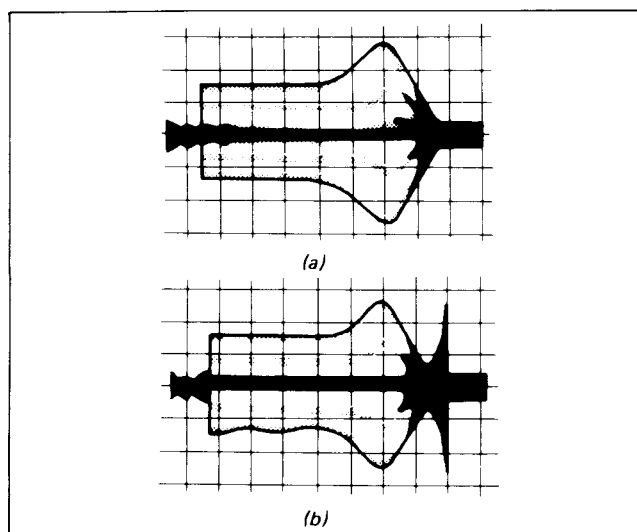
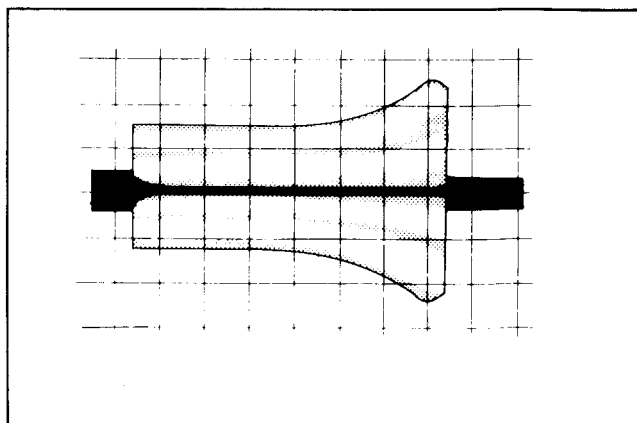
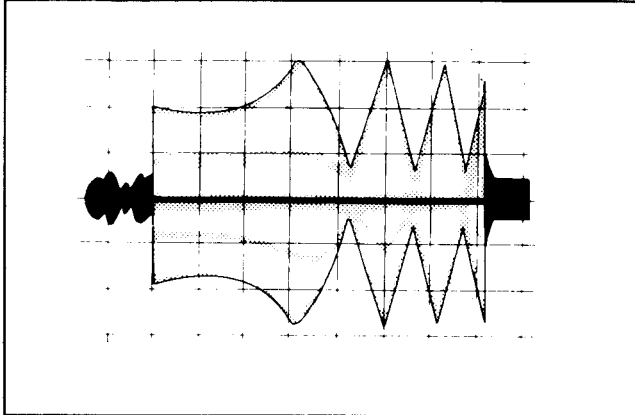

Fig. 4-17.
Fig. 4-18.
Fig. 4-19.
i) If the exit free waveform is within the range indicated in Fig. 4-17(a), (b), proceed from step 5).
- ii) If the peak of the exit free waveform is smaller than that illustrated in Fig. 4-17(a) (e.g. Fig. 4-18), loosen the lock screw, then turn the capstan adjustment screw until the waveform is within the specified range.
- iii) If the peak shape of the exit free waveform differs from that shown in Fig. 4-17(b) (e.g. Fig. 4-19), loosen the lock screw, then turn the capstan adjustment screw clockwise until the waveform is within the specified range.
- 5) Lock the capstan lock screw. (Turn clockwise until it stops, then turn about 30° more. At this point, the exit free waveform will change slightly, and if it goes out of the range shown in Fig. 4-17(a), (b) return to step 4) and re-adjust.
- 7) Confirm and adjust according to 4-1-3, exit side adjustment procedure items 4), 5).